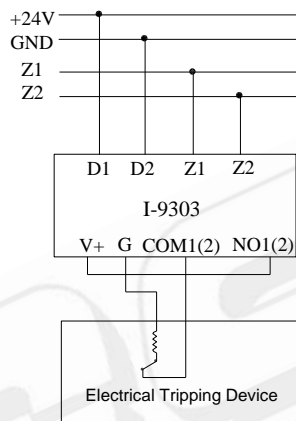

Fig.3
- The module can directly drive a smoke vent or fire damper (electrical tripping device, 24VDC). The connection is shown in Fig. 3.